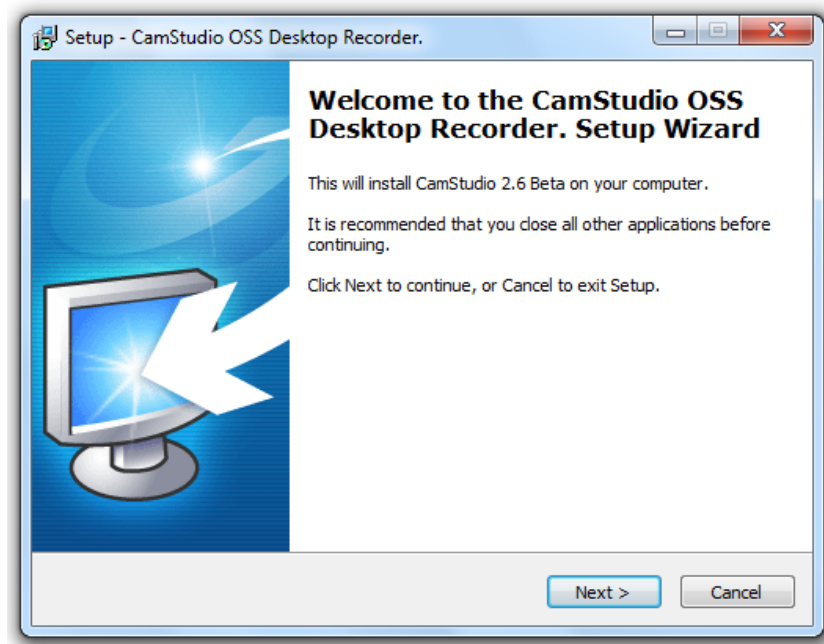

Fig. 12: CamStudio setup wizard
4. On the T&M instrument, double click the CamStudio installer file and execute the file. The setup wizard is opened (see Fig. 12).